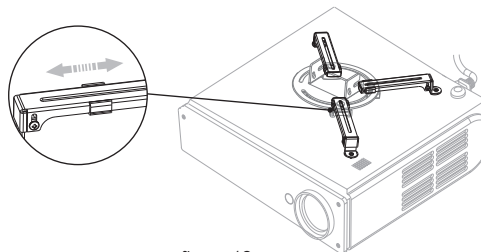

figure 12
2.If there are 3 holes, the installation arms (4-2) need to be taken apart from Installation bracket firstly. Connect 3 installation arms(4-2) to the projector, and then connect the installation arms (4-2) to the installation base (4-5) However,the installation base needs to be the center of projector. Figure 12.